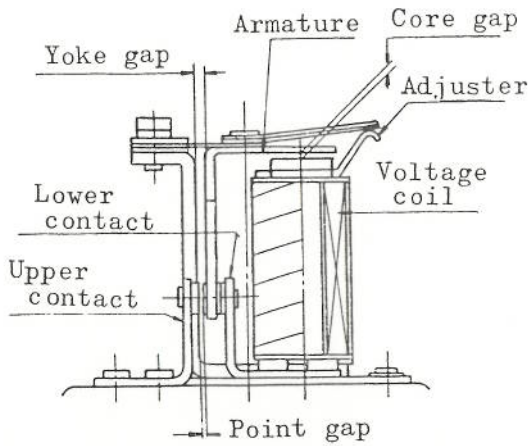

Fig. 10-53
- (2) Check and adjust all the contact points gaps in the sequence of 1) yoke gap, 2) core gap and 3) points gap. (See Fig. 10-53)
(3) Yoke gap